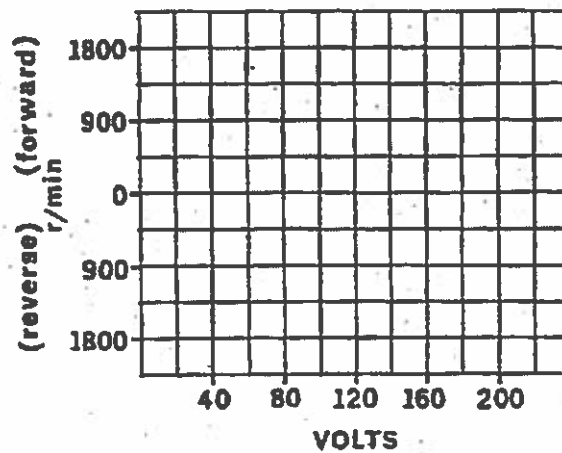

Figure 49-2.
8. Plot the rotor speed vs rotor voltage on the graph of Figure 49-2. Should it be a straight line?